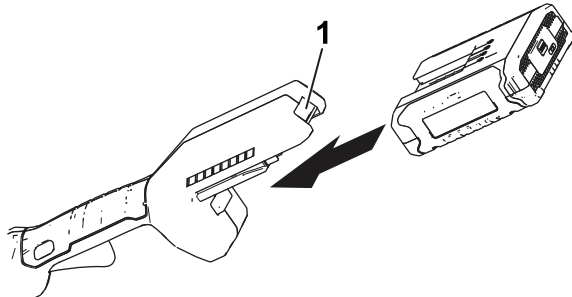

Figure 7
2. Align the cavity in the battery pack with the tongue on the handle housing (Figure 7).